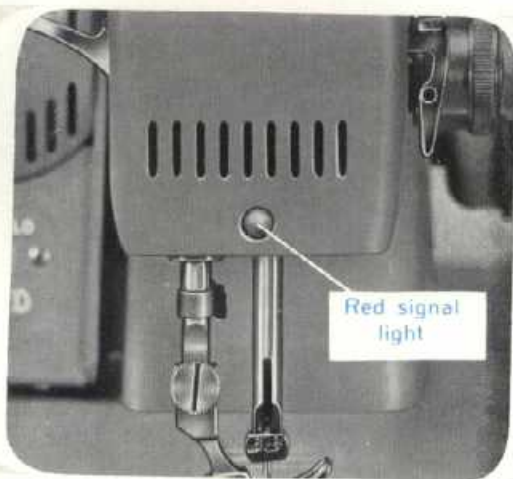

Fig. 12
- a) Throw the « LIGHT » switch on the transformer (Fig. 5) to the « ON » position and leave it in this position while the machine is in use. When the « LIGHT » switch is at the « ON » position, a red signal light (see Fig. 12) will appear at the lower portion of the face plate, indicating that the sewing machine is now under current. This red signal light will glow as long as the « LIGHT » switch is at the « ON » position.